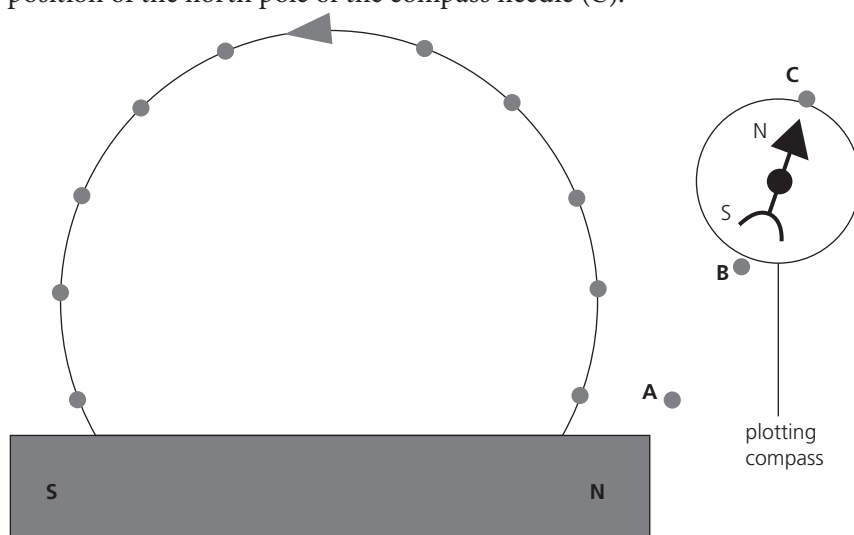

Figure 1
- 2 Place a plotting compass near the north pole of the bar magnet (see point A in Figure 1).
- 4 Move the compass so that the south pole of the compass needle is at the point (B) where the north pole was previously and mark the new position of the north pole of the compass needle (C).